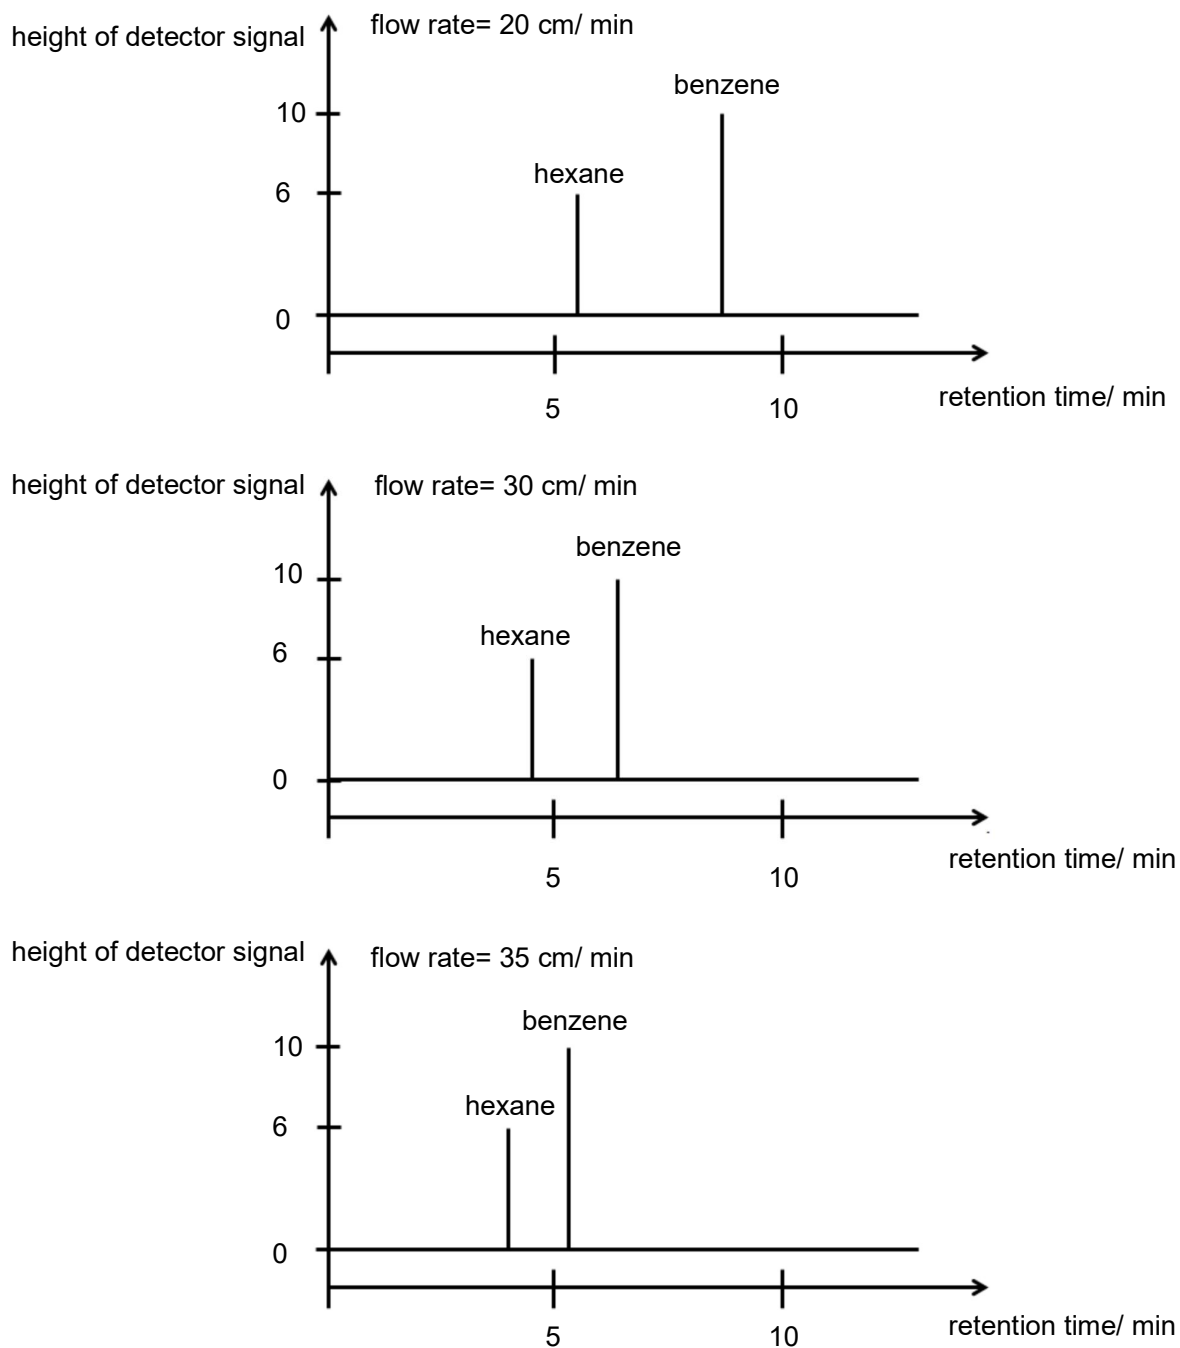

Fig. 9.3
Fig. 9.3 shows the chromatograms obtained for the different flow rate of carrier gas.
- (i) Use the information provided in Fig 9.3, describe how the flow rate of the carrier gas affects the retention time of the compounds.